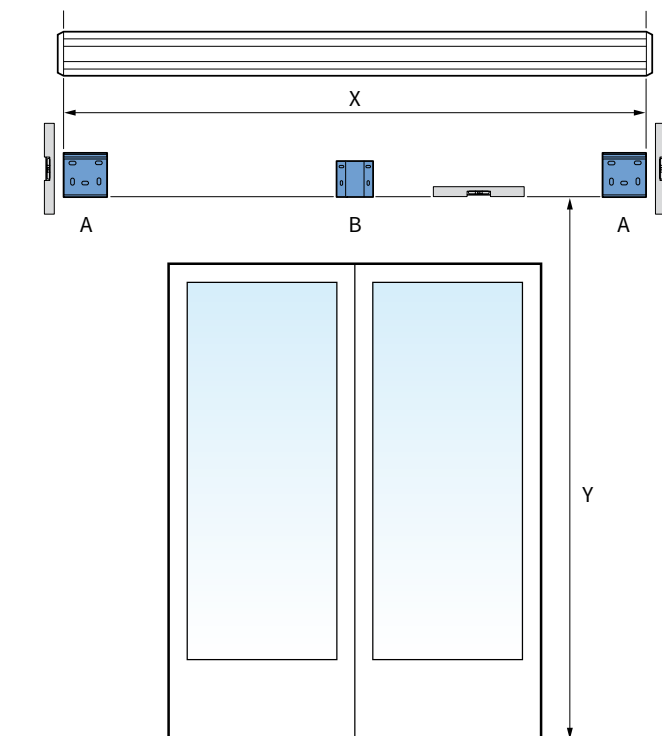

fig. 1.1 Placing wall supports
Mark the holes for the wall supports (A) and potential for the intermediate support (B) on the wall. These holes need to be aligned level, horizontal and vertical, according to the sizes X and Y in figure 1.1.
2. Measure the strips carefully on the wall. Keep the placing of the wall brackets on the strips and width size X in figure 1.1 in mind. The wall strips need to be levelled horizontal and vertical. The mounting holes need to be in the middle of the stone. If desired use a align cord. Mount the wall strips tight to the wall.